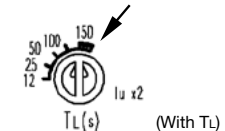

Fig. 30-4
- In the bold line area, where there is a range, the setting is the same for the entire area. (Fig. 30-4)